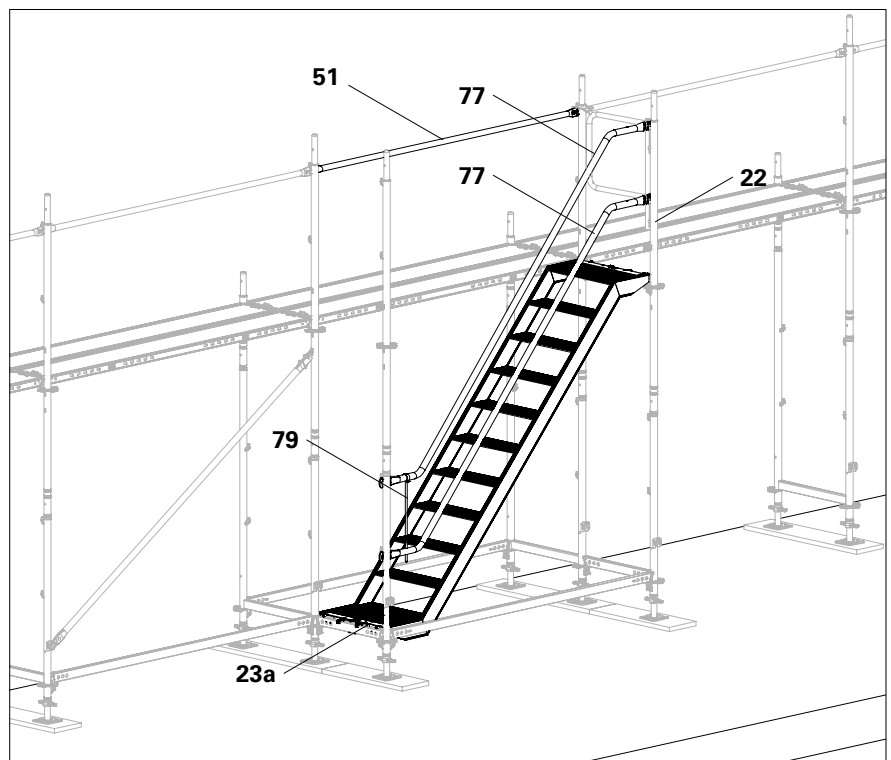

Fig. B8.04
5. Fit two Stair Guardrails EAG (77) between the Easy standard (22) and base standard (23a).
6. At the step at the bottom, connect both Stair Guardrails EAG (77) with Locking Pin EAG (79). To do so, insert the locking pin through the holes of the guardrail posts.
7. Attach Stair Tower UAS/EAS (76) firstly to the top Horizontal Ledger UH-2 67 and then to the bottom one.
8. Fit the guardrail post (51) in the access bay from the stair tower.
- (Fig. B8.04)